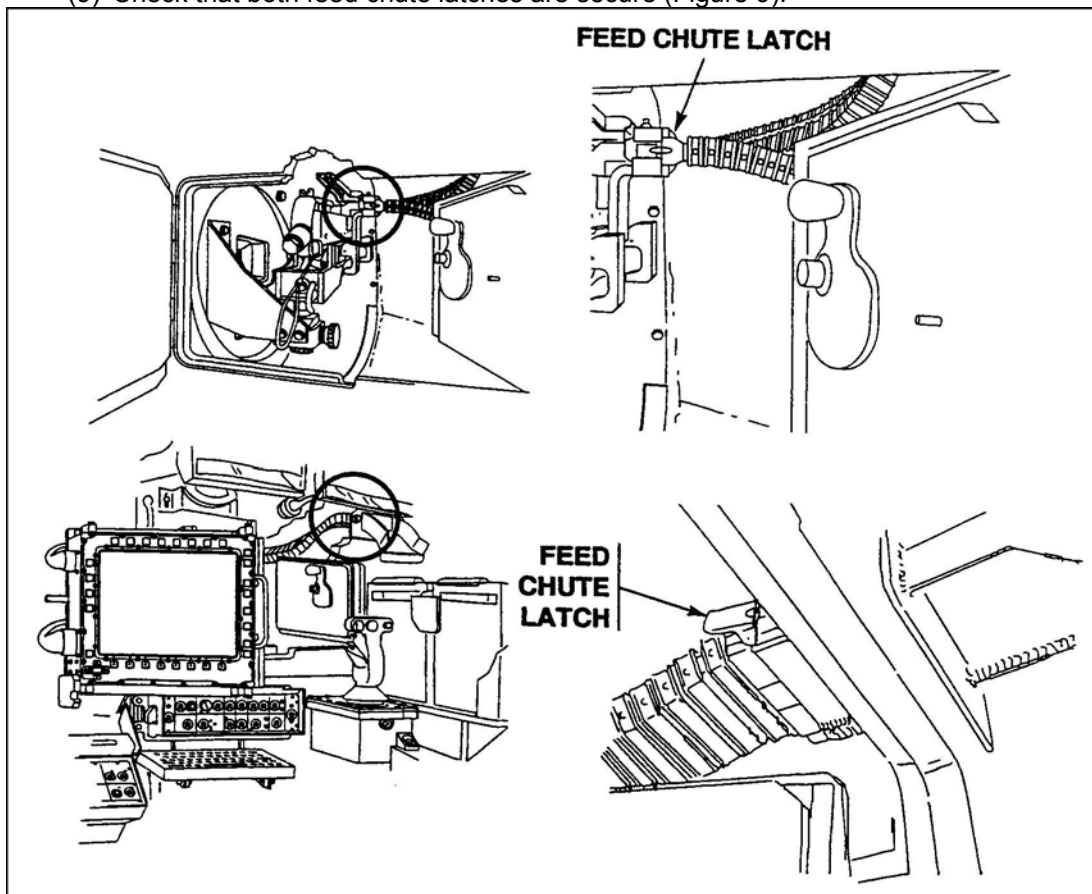

Figure 9. Feed chute latch.
- (8) Make sure the rounds are aligned evenly on the ammunition belt.
(9) Check that both feed chute latches are secure (Figure 9).